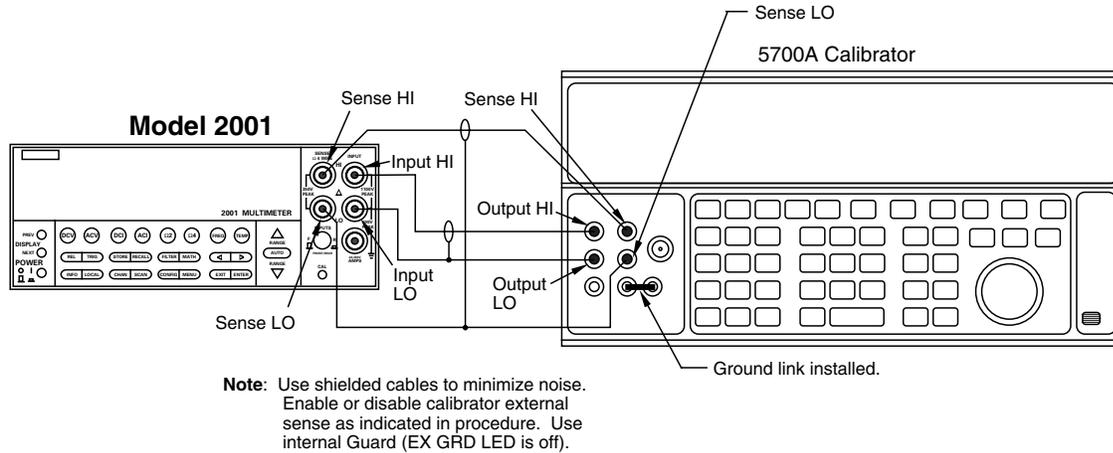

Figure 2-2
2. Disconnect the low-thermal short, and connect the DC calibrator to the INPUT jacks, as shown in Figure 2-2.